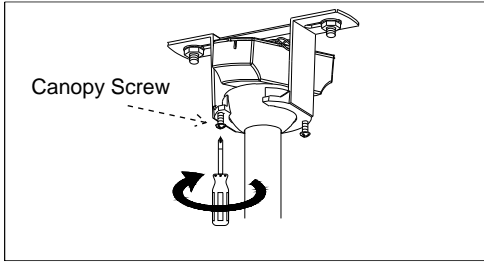

Fig. 9
Step 1. As shown in Fig. 9, loosen canopy screws from mounting bracket (A), but do not take off.